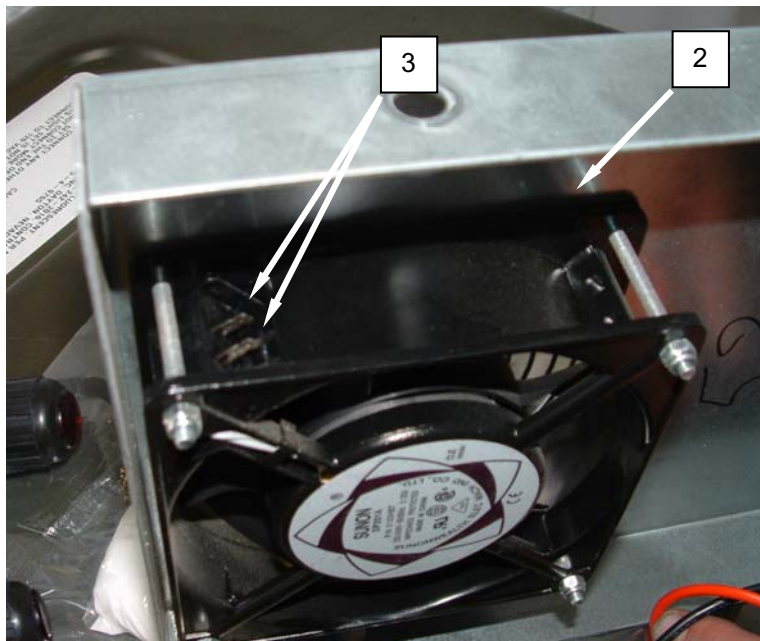

Figure 2. Test the Washer Variable Frequency Drive Cooling Fan.
2. Remove screws retaining inverter box cover (**Figure 2, Item 1**) and remove cover.
3. Tag and disconnect wiring from fan (**Figure 2, Item 2**).
4. Use an ohmmeter to check for 750 ohms resistance between motor leads (**Figure 2, Item 3**).
5. Use an ohmmeter to check for infinite resistance between each motor lead (**Figure 2, Item 3**) and ground.
8. Install inverter box cover (**Figure 2, Item 1**) and retain with screws.